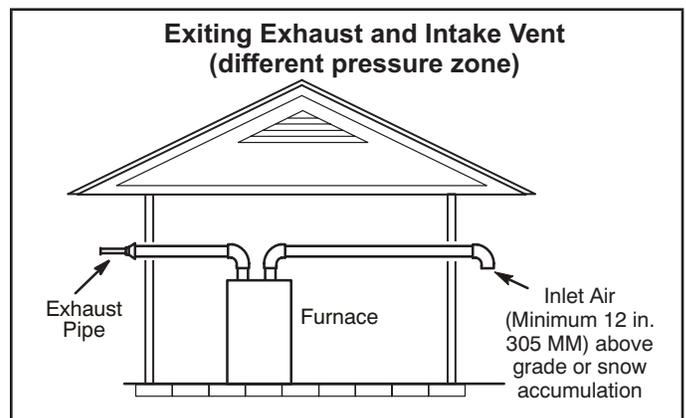

FIGURE 35
- 1 - Intake and exhaust terminations are not required to be in the same pressure zone. You may exit the intake on one side of the structure and the exhaust on another side (FIGURE 35). You may exit the exhaust out the roof and the intake out the side of the structure (FIGURE 36).